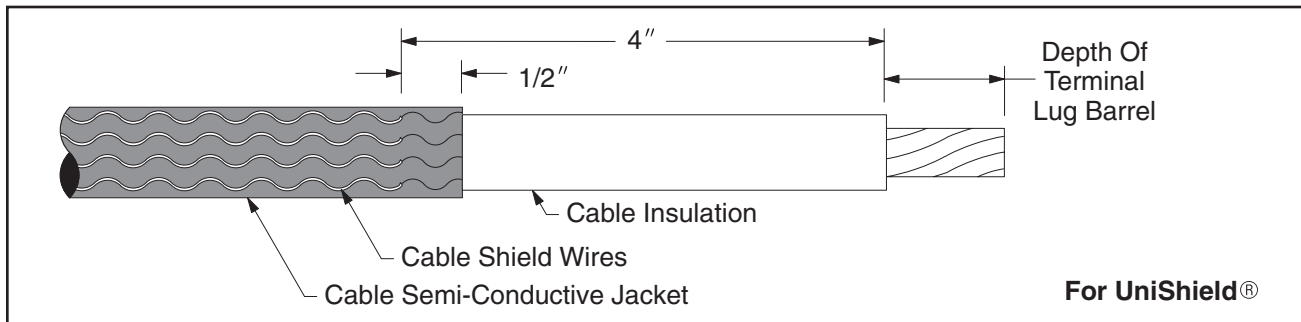

Figure 7c
**For UniShield® Cable** see *Figures 7c, 8c and 9c*.